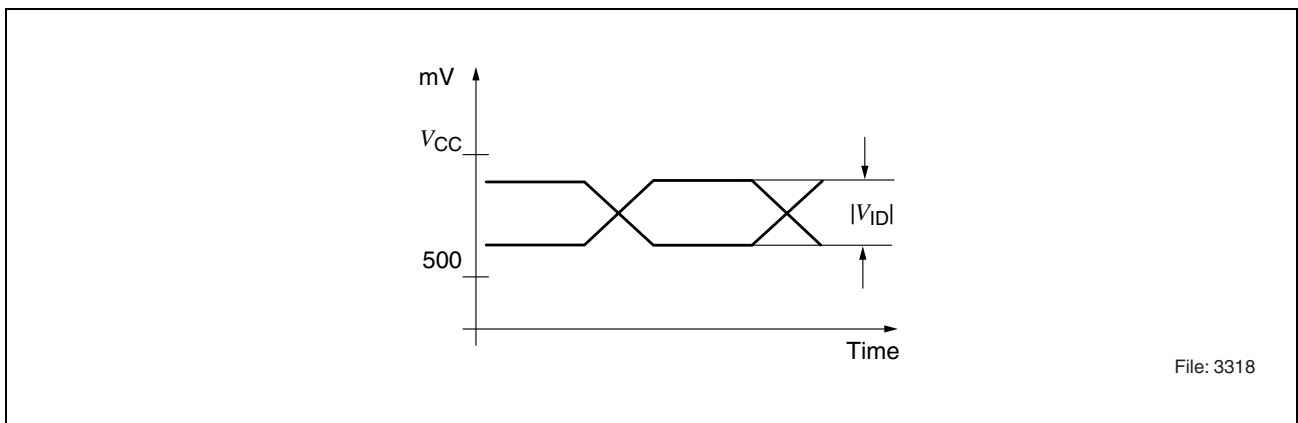

Figure 7 Input Level Diagram, DC-coupling
- ⁴⁾ Input level diagram: see **Figure 7** on **Page 16**.